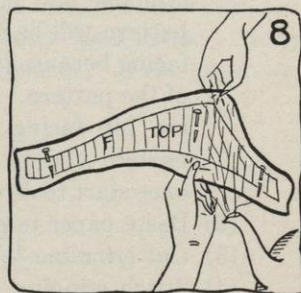

FIG. 8.
- (3) At other times the felt or straw may not be wide enough. Then it must be stretched wider (see Figure 8). If this makes ripples they may be pressed out later under a damp cloth. (See Precautions for pressing straws in Section 1 *b*, (1) through (6), of Job 12, page 53.)
- (4) Sometimes the edge is too circular and therefore the flange must be stretched in width to remove the fullness (see Figure 8). The fullness may be removed still more when pressing the flange later. (See Precaution for pressing straw, Section 1 *b*, (1) through (6), Job 12, page 53.)